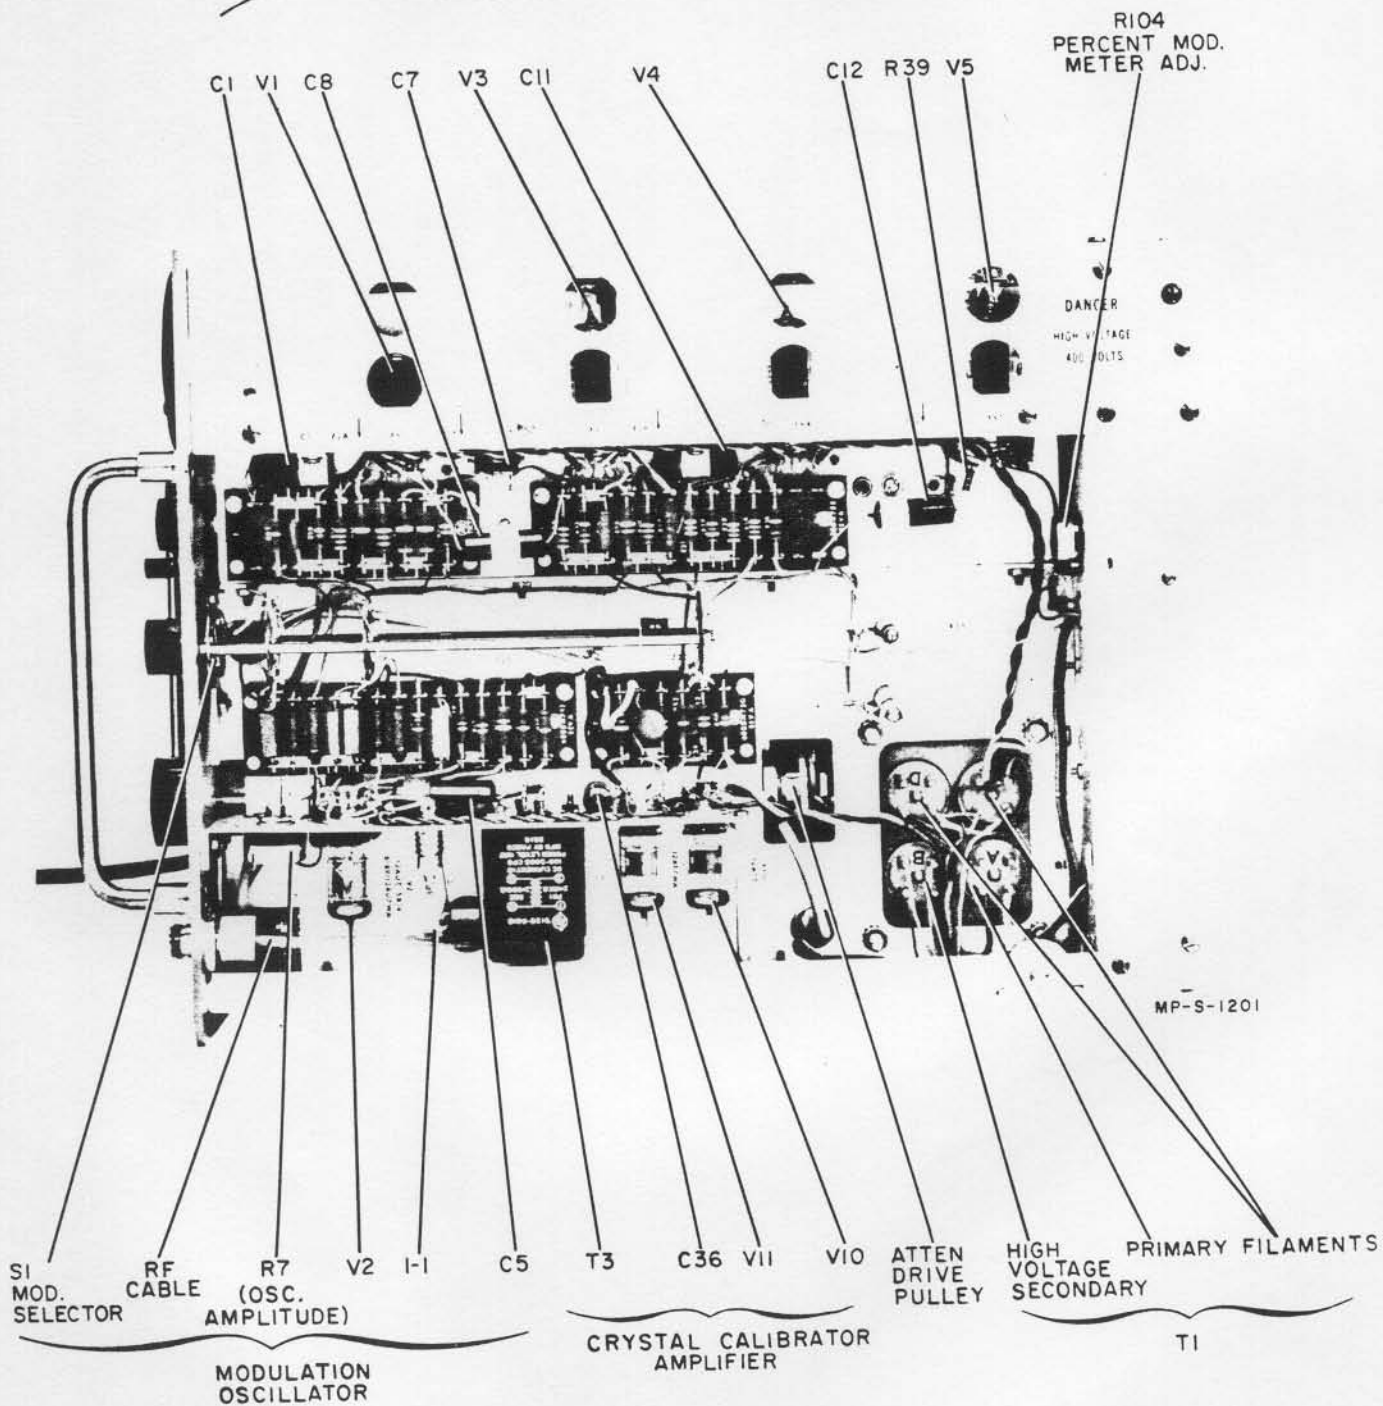

FIGURE 4-12. MODEL 608D RIGHT SIDE VIEW CABINET REMOVED
- g. Adjust R104 (see Figure 4-12) to provide a reading of 80% on the PERCENT MODULATION meter.